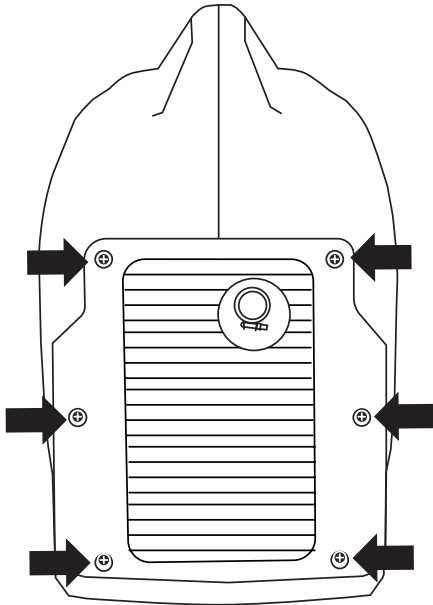

Figure 21: Remove screws holding muffler cover
3. Remove the screws holding the muffler cover in place (see *Figure 21*).